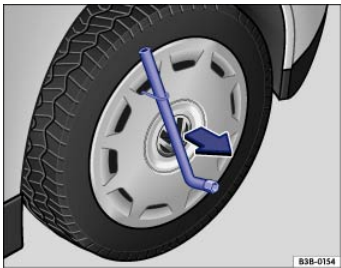

Fig. 189 Pulling the wheel cover off.
- Slide the lug wrench through the clip ⇒ Fig. 189 and pull the wheel cover off in the direction of the arrow.